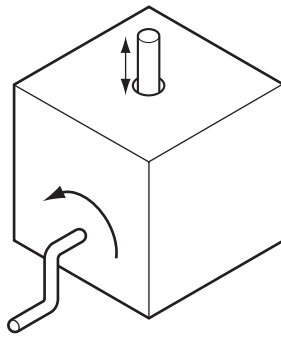

Fig. 5
- 12 Fig. 5 shows a black box diagram of a mechanism designed to convert one form of motion to another.
- (a) Name the **two** forms of motion indicated on Fig. 5.